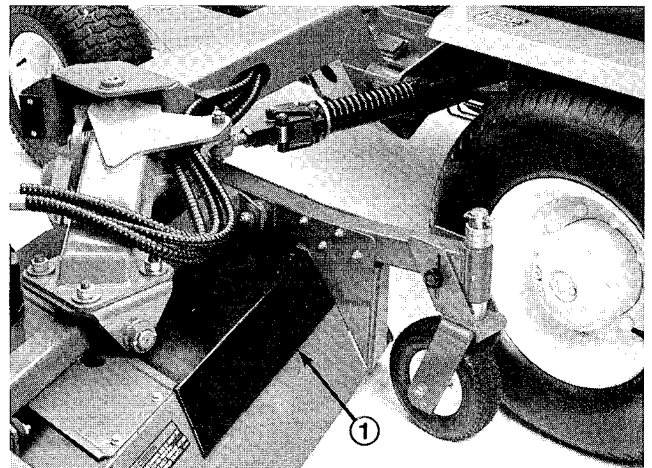

Figure 56
2. Remove the inner deck pulley cover (Fig. 56).